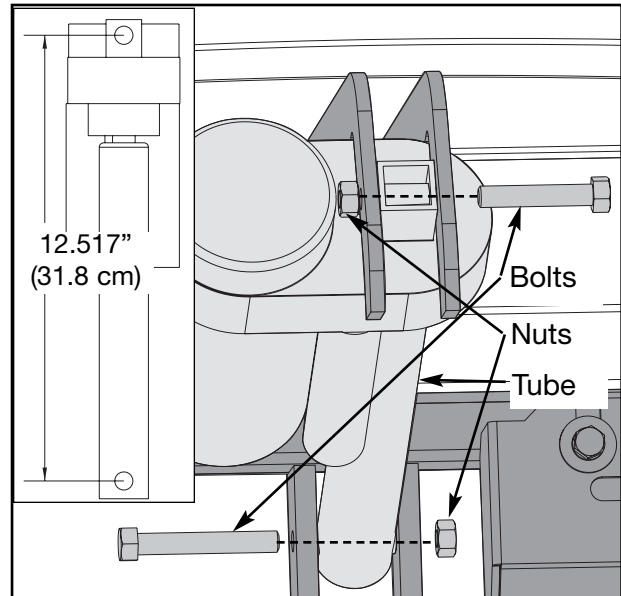

Figure 15
- A. Carefully place the elevation motor in position on the treadmill. See Figure 15.
- B. Slide both bolts into the slots before tightening. The top bolt goes from the left to the right. The bottom bolt goes from the right to the left. See Figure 15.
- B. Turn the tube with your fingers until it measures 12.517" (31.8 cm) from the center of the top hole to the center of the bottom hole. See Figure 15.
- A. Connect the main power cord into the power outlet and turn the power switch the on position (I).
- E. Stop the treadmill and turn the main power switch in the front panel to the off (O) position.